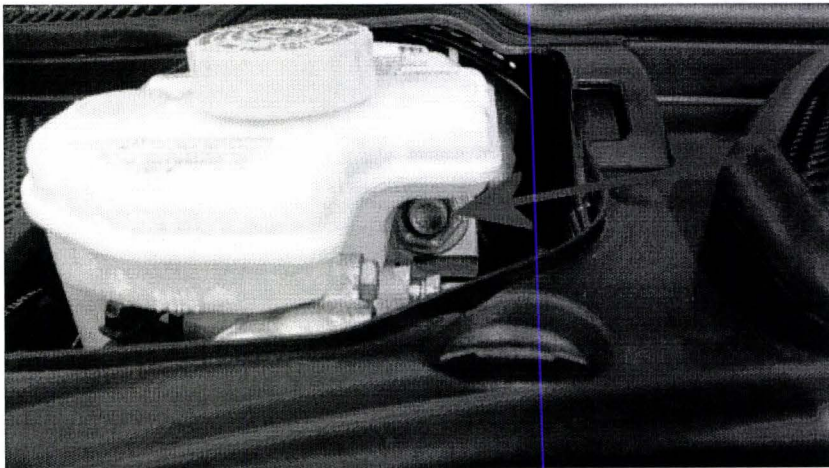

Figure 4
If the vehicle is not already listed as repaired in the "Repair history" (in Elsa Pro), check the vehicle for the Campaign identification mark, which is a Blue paint mark on the left hand brake master cylinder bolt (Figure 4) should neither be evident please carry out the required work in accordance with the instructions.
- place a Blue confirmation mark on the left hand brake master cylinder bolt (Figure 4)
- Place a Blue confirmation mark on the left hand brake master cylinder bolt (Figure 4)
Blue confirmation mark on the left hand brake master cylinder bolt (Figure 4)